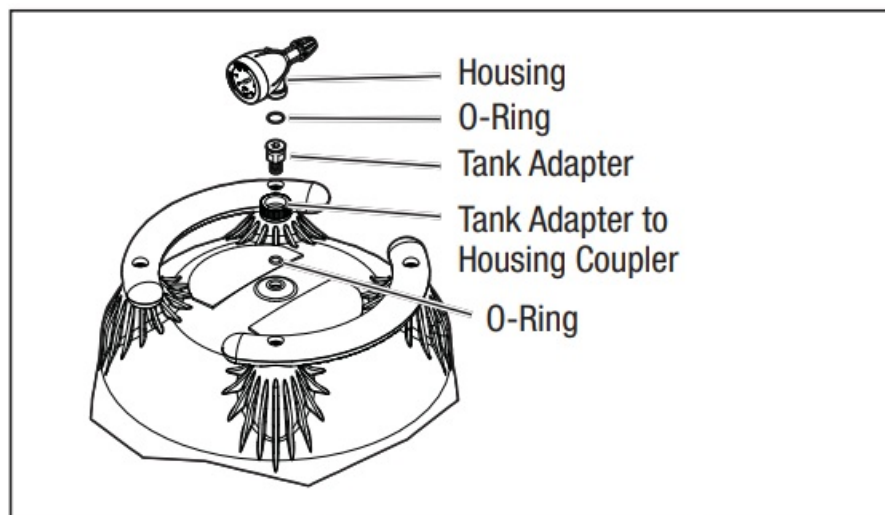

Figure 4. Pressure Gauge/Air Release Assembly
- Place the smaller, thicker o-ring onto the threads of the tank adapter, see Figure 4. Slide the tank adapter through the coupling nut and into the filter tank. Use the flats on the tank adapter to tighten. Do not overtighten.